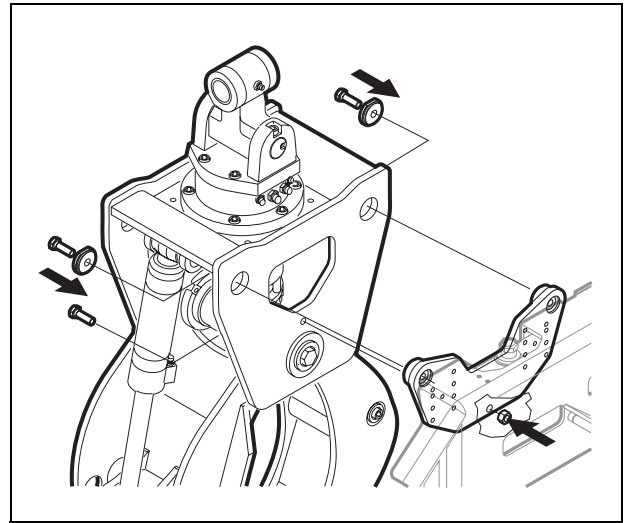

Fig. 17 Assemble the SuperSaw 550S with the grapple bracket to the grapple frame
4. Assemble the SuperSaw 550S with the grapple bracket to the grapple frame. *See Fig. 17.*